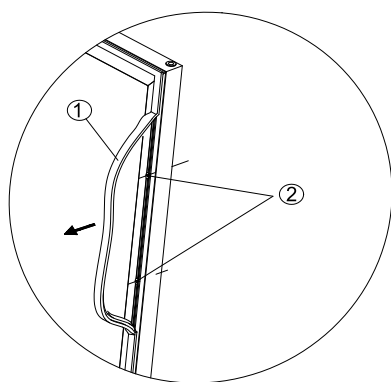

Fig:1
- 1) Pull away the sealing gasket where the handle is to be installed as shown in Fig1. The gasket is easily displaced by hand. No tools are necessary.